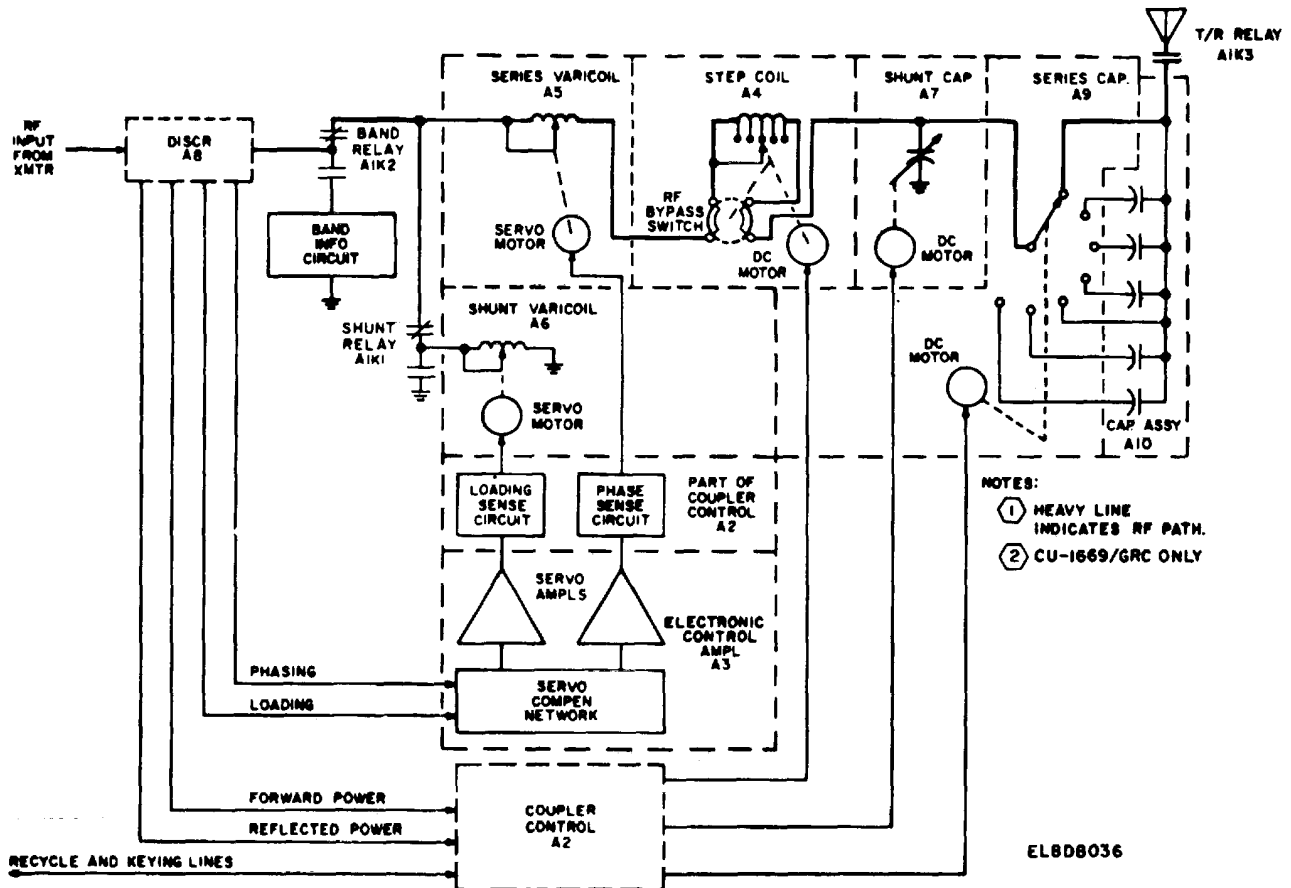

Figure 2-2. Antenna Coupler, Block Diagram.
a. The antenna coupler (fig. 2-2) automatically matches an antenna to a 50-ohm transmitter output impedance over the frequency range of 2.000 to 29.999 MHz. The tuning operation is a five-step sequence--
- (1) Home (para 2-3).
- (2) Rf On (para 2-4).
- (3) Tune A (para 2-20).
- (4) Tune B (para 2-24).
- (5) Operate and demand surveillance (para 2-
b. The tuning elements (fig. 2-2) include--
- (1) Step coil A4.
- (2) Series varicoil A6.
- (3) Shunt varicoil A6.
- (4) Series capacitor A9.
- (5) Shunt capacitor A7.
d. Immediately after RF power is applied, discriminator A8 (fig. 2-2) samples the input to the I antenna coupler. It develops four dc voltages that are in proportion to the reactive component (phasing error), the 50-ohm impedance component (loading error), the forward power level, and the reflected power level. The phasing and loading error signals are dependent upon the frequency selected and are used to select, limit, and/or preposition the tuning elements. Forward and reflected power are used by the antenna coupler to determine the start and completion of the tuning sequence.
2-4. RF On (fig. 2-2)